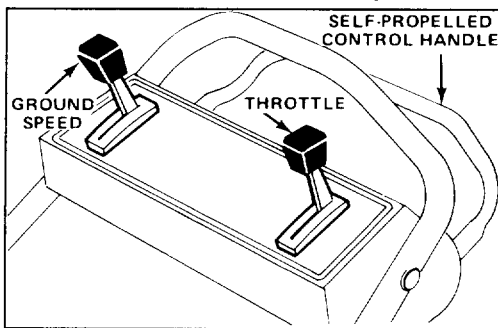

Figure 8
1. **CONTROLS**—Throttle, ground speed control, and blade/self-propelled control bar are on upper handle (Fig. 8). Recoil starter is on top of engine.
3. Move ground speed control to "N" (Fig. 8).
6. STOPPING (Fig. 8)—Release control bar to stop blade and traction drive. Move ground speed control to "N". To stop engine, move throttle to OFF. Pull wire off spark plug if mower is unattended or not used.